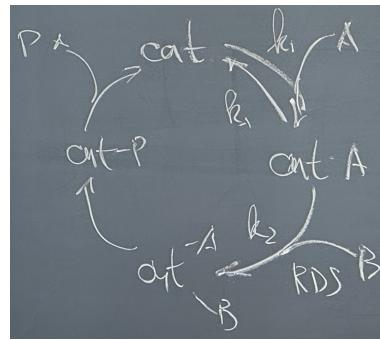

Figure 12.3: Model catalytic cycle (kinetic analysis).
- To derive the rate law for Figure 12.3 in terms of  $[\text{cat}]_T$  — an observable — we'd need a system of equations.